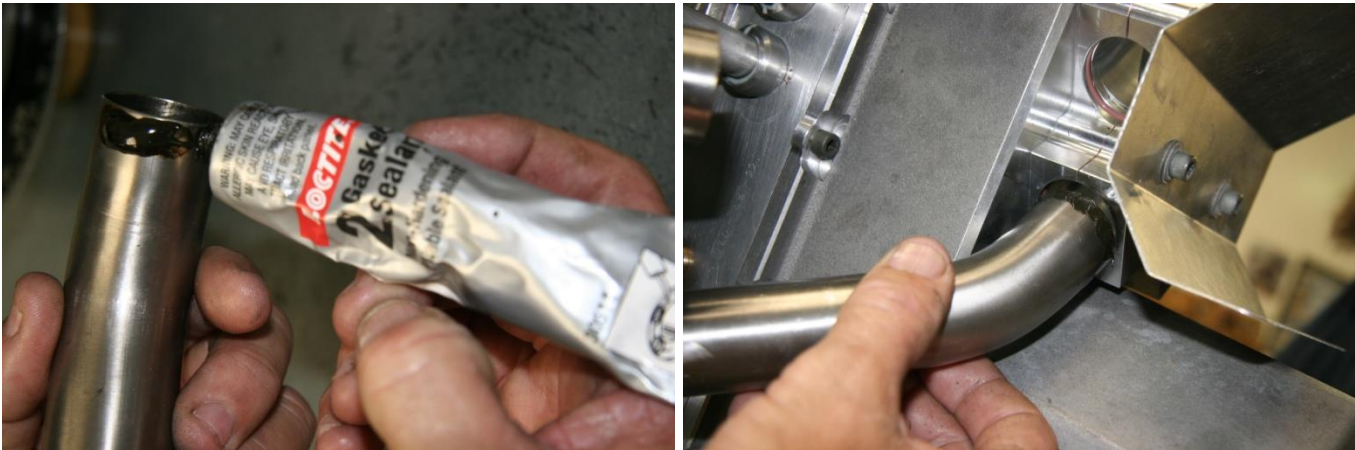

Figure 196 – Fitting Induction Pipes to Plenum Chamber
- One by one, fit the lower induction pipes into the plenum chamber. Before fitting, apply Loctite #2 gasket seal (as shown in Figure 196) around the outside end of the induction pipe. Care must be taken to get the amount of sealant right – too little will result in leaks which can dangerously affect the fuel/air mixture while too much will form blobs inside the induction manifold and will need to be cleaned out.